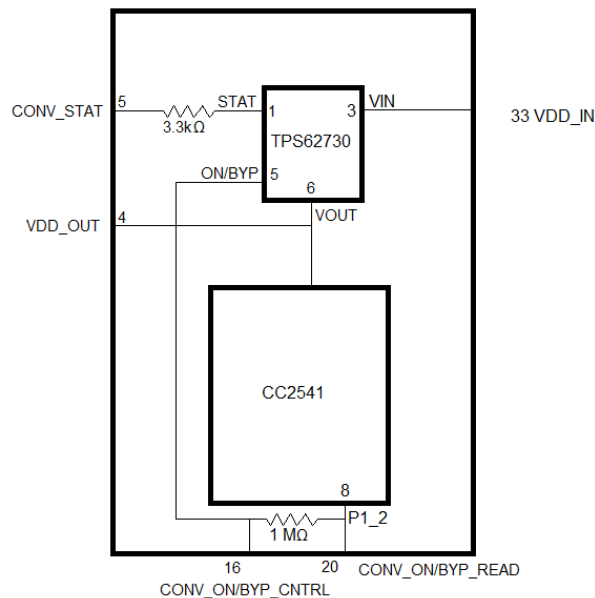

Figure 3 Internal connections for TPS62730 Step-Down Converter
- Connections to the step-down converter pins are identified in Figure 3 below. For brevity, filtering components are not shown.